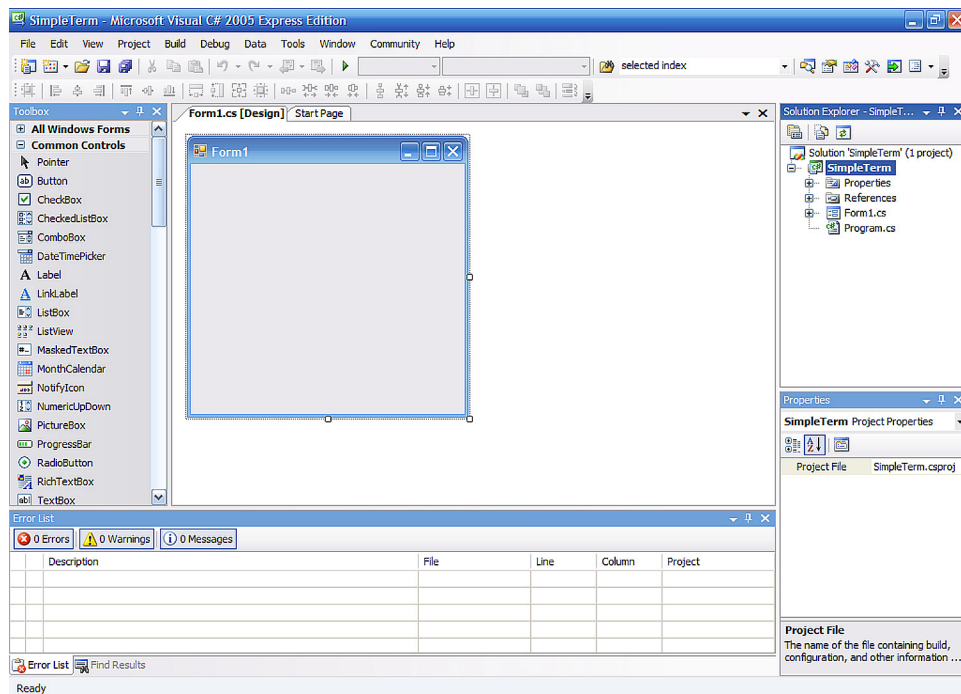

Figure 6: AVRStudio IDE
- The IDE should look like Figure 6: AVRStudio IDE.